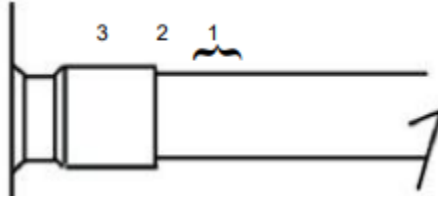

Figure 3
The suction and discharge plugs should be left in place until the compressor is set into the unit. If possible, the compressor should be kept vertical during handling. The discharge connection plug should be removed first before pulling the suction connection plug to allow the dry air pressure inside the compressor to escape. Pulling the plugs in this sequence prevents oil mist from coating the suction tube making brazing difficult. **The copper coated steel suction tube should be cleaned before brazing (see Figure 3).** No object (e.g. a swaging tool) should be inserted deeper than two inches (51 mm) into the suction tube, or it might damage the suction screen and motor.
These compressors are available with stub tube or rotalock connections. The stub tube version has copper-plated steel suction and discharge fittings. Due to the different thermal properties of steel and copper, brazing procedures may have to be changed from those commonly used. See Figure 3 for assembly line and field brazing procedures and Table 2 for Rotalock torque values.
Figure 3 discusses the proper procedures for brazing the suction and discharge lines to a scroll compressor. **NOTICE It is important to flow nitrogen through the system while brazing all joints during the system assembly process.** Nitrogen displaces the air and prevents the formation of copper oxides in the system. If allowed to form, the copper oxide flakes can later be swept through the system and block screens such as those protecting capillary tubes, thermal expansion valves, and accumulator oil return holes. The blockage - whether it is of oil or refrigerant - is capable of doing damage resulting in compressor failure.
It is important to check both the high pressure and low pressure sides with manifold gauges before unbrazing. Instructions should be provided in appropriate product literature and assembly (line repair) areas. If compressor removal is required, the compressor should be cut out of system rather than unbrazed. See **Figure 3** for the proper compressor removal procedure.
2. Install the suction and discharge manifolds. If the manifolds are brazed to the compressors following the brazing guide in **Figure 3**. If the manifolds are connected to the compressors with rotalocks torque the rotalocks to the value specified in **Table 2**.